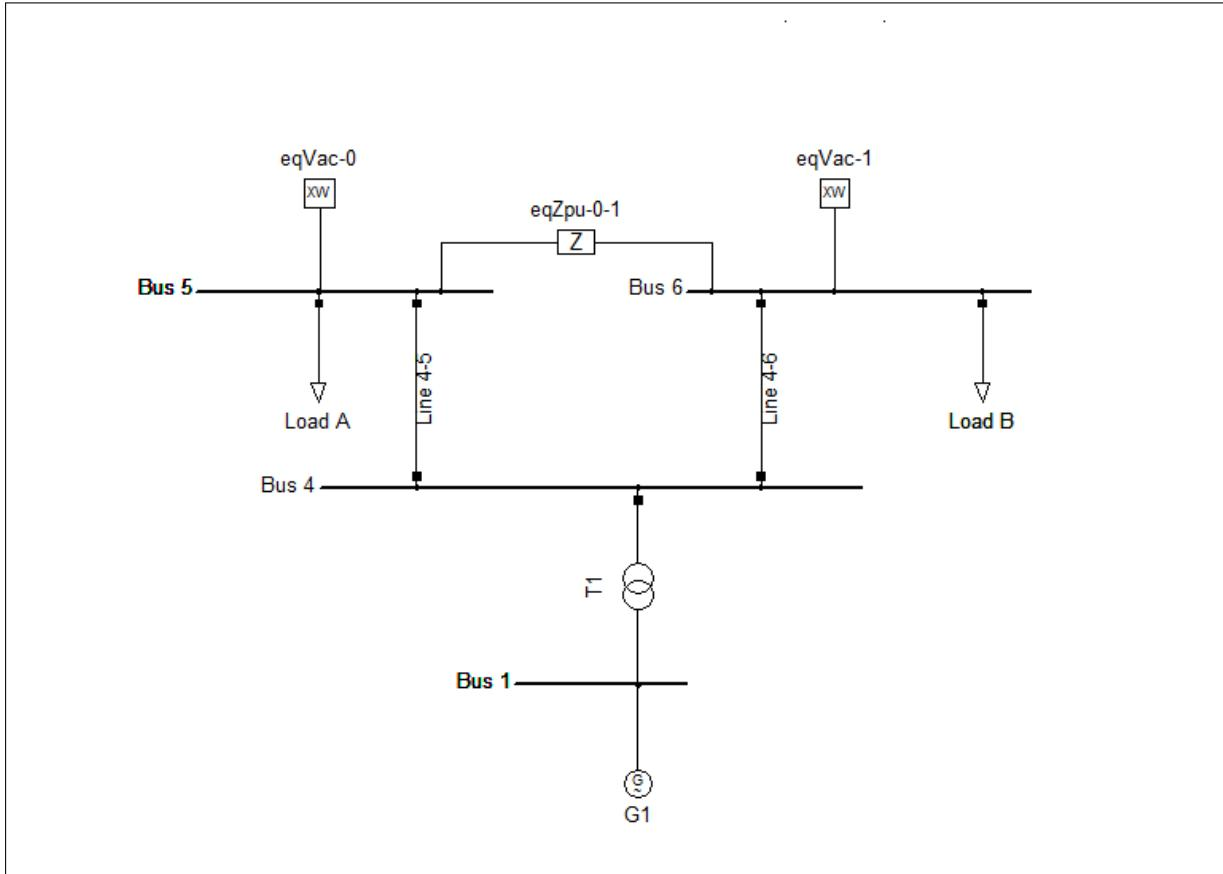

Figure 48.5.2: Example System with Reduced Network
6. Now you can draw the new common impedance and equivalent ward voltage source elements using the *Diagram Layout Tool*. The result of the Network Reduction is shown in Figure 48.5.2.